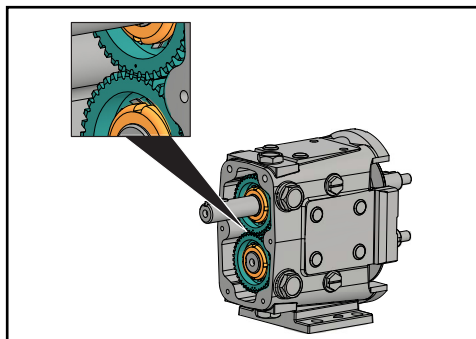

Figure 66 - Timing Gear Marks
3. Slide the short shaft gear onto the short shaft. The short shaft gear has two punch marks on the gear. Straddle the single punch mark of the spur drive gear with the two punch marks on the short shaft gear (Figure 66).